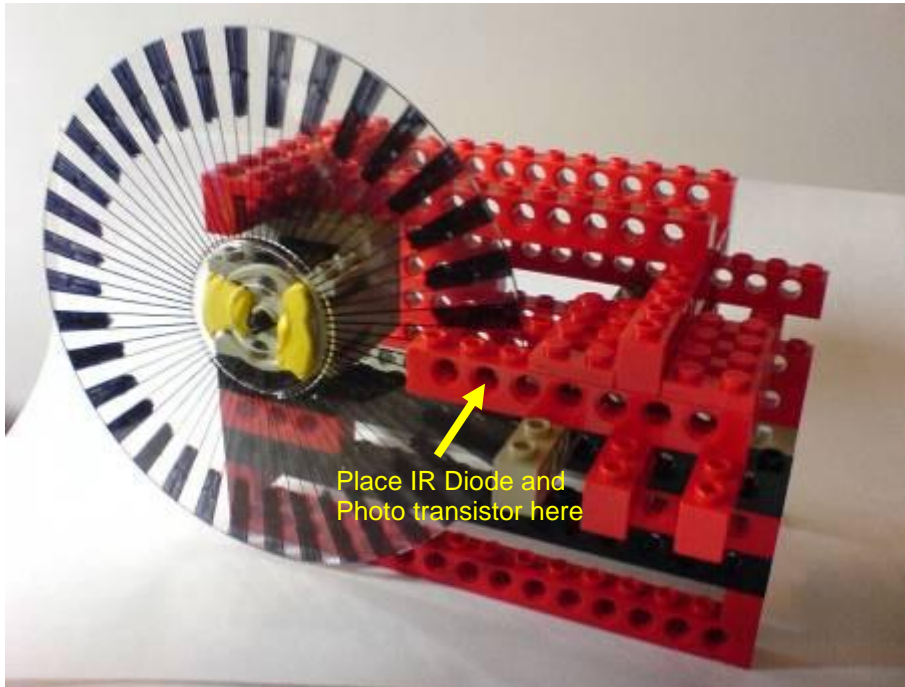

Figure 1
1. Build a base for motor0 out of Lego® bricks, such as the one shown in Figure 1
I have created a rotor with 5° spacing (72 gradations) on it as shown above in Figure 1.